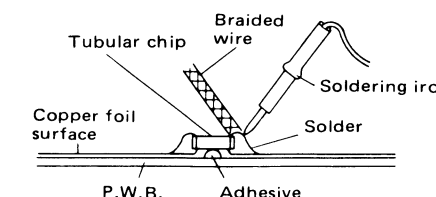

Figure 22-1
- Using a soldering iron, heat the solder at each terminal of the chip to get it absorbed into a braided wire applied thereon. See Fig. 22-1.